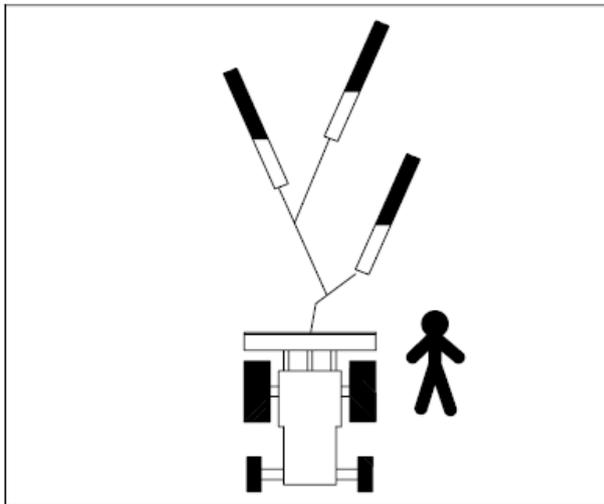

Fig. 5.
- a. Always position the tractor on a flat ground in line with the direction of the pull (see fig. 5). Avoid working in steep terrain. Ensure nothing is blocking the path of trees.